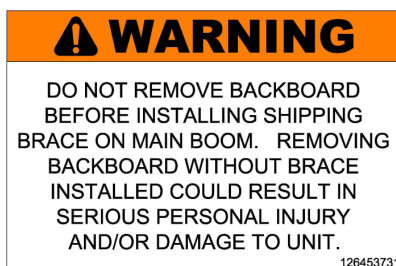

Figure 35
8. If the Board and Goal will be removed to transport, be sure to first install the Shipping Brace, item 30, using 1/2" hardware, item 31, 32, and 33 as shown in figure 35.